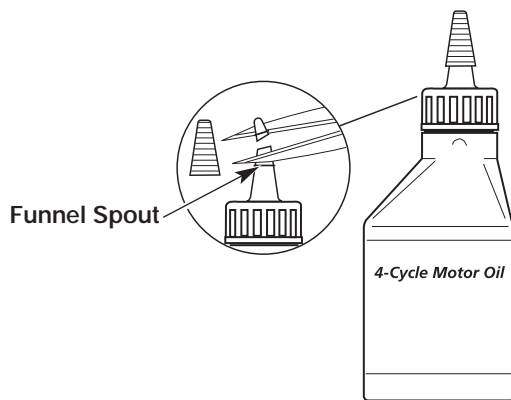

Figure 16
Your unit is supplied with one 3.4 fluid oz. (100 ml.) bottle of SAE 30 SF, SG, SH oil. See Figure 16.
1. Unscrew the top of the bottle of oil and remove the paper seal covering the opening. Replace the top. Next, cut the tip off the funnel spout. See Figure 16.